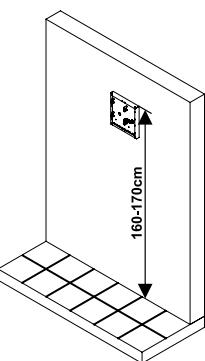
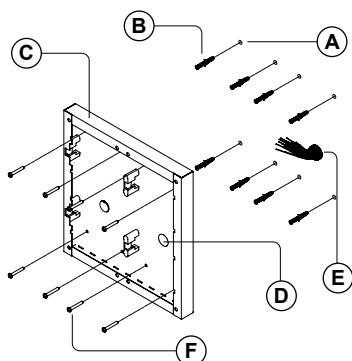

fig. 1
fig. 2
1. Place the surface box against the wall (165-170cm between the top of the box and the floor level as shown in **Fig. 1**) and mark the fixing holes for the wall plugs and the hole for the cables **E** (**fig. 2**). Observe the orientation of the box with the hinge on the left;
2. As shown on **Fig. 2**, drill the fixing holes **A**, insert the wall plugs **B** and feed the cables **E** through the surface box opening **D**, fix surface box **C** to the wall using the screws **F**;
1. Protect the module support frame fixing holes from dust then embed the back box into the wall (165-170cm between the top of the box and the floor level as shown on the **Fig. 1**) feeding the cables **E** (**Fig. 2**) through a previously opened hole in the box. Observe the direction of the box ensuring the hinge is on the left and take care that the box profile is in line with the finished wall profile: